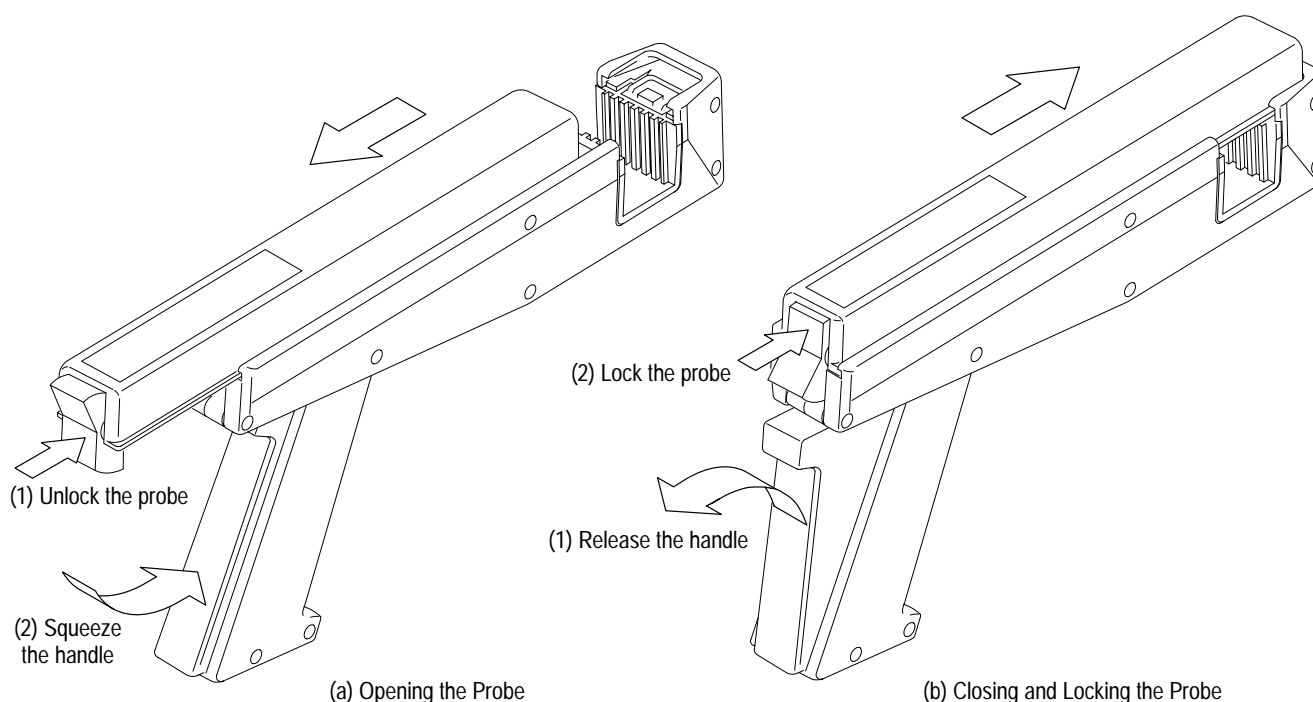

Figure 2: Operating the Probe Slide
Figure 2 illustrates the slide operation of the probe. To open the probe, press the bottom of the lock button and squeeze the handle until the core is open. To lock the probe, release the squeeze handle and press the top of the lock button.
3. Lock the probe slide closed as shown in Figure 2(b).